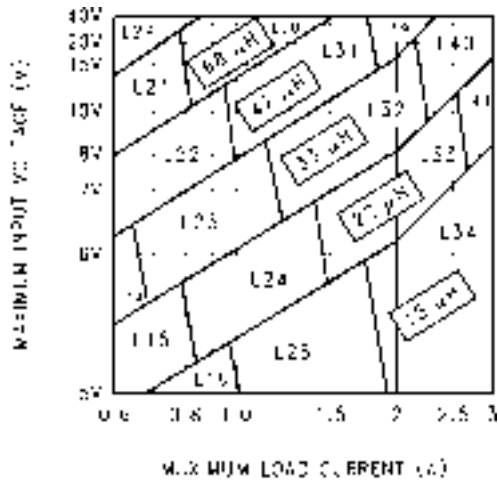
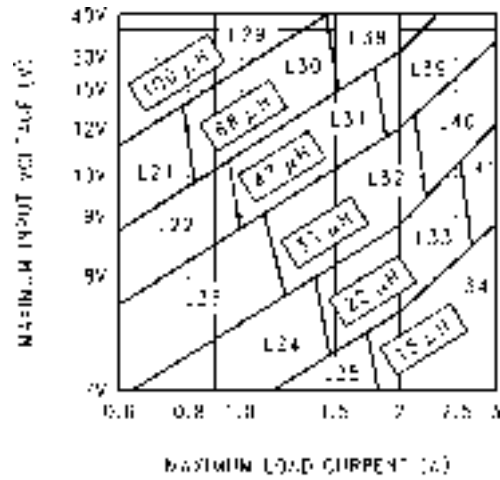
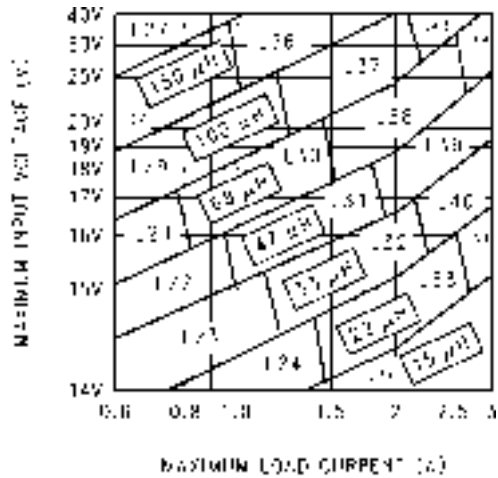
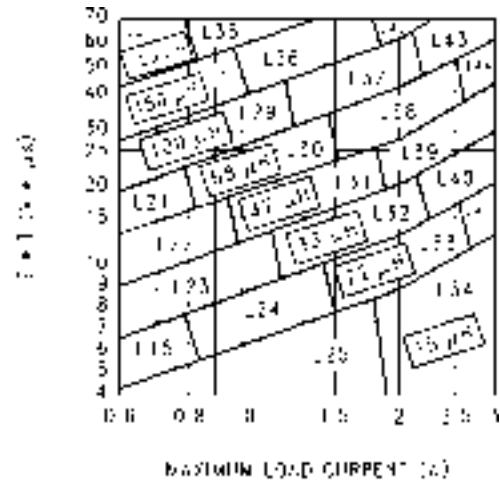

图 9-5. LM2596-3.3
图 9-6. LM2596-5.0
图 9-7. LM2596-12
图 9-8. LM2596-ADJ
To simplify the inductor selection process, an inductor selection guide (nomograph) was designed (see 图 9-5 through 图 9-8). This guide assumes that the regulator is operating in the continuous mode, and selects an inductor that will allow a peak-to-peak inductor ripple current to be a certain percentage of the maximum design load current. This peak-to-peak inductor ripple current percentage is not fixed, but is allowed to change as different design load currents are selected (see 图 9-4.)
For continuous mode operation, see the inductor selection graphs in 图 9-5 through 图 9-8.
In a switching regulator design, knowing the value of the peak-to-peak inductor ripple current ( $\Delta I_{IND}$ ) can be useful for determining a number of other circuit parameters. Parameters such as peak inductor or peak switch current, minimum load current before the circuit becomes discontinuous, output ripple voltage, and output capacitor ESR can all be calculated from the peak-to-peak  $\Delta I_{IND}$ . When the inductor nomographs in 图 9-5 through 图 9-8 are used to select an inductor value, the peak-to-peak inductor ripple current can immediately be determined. 图 9-9 shows the range of ( $\Delta I_{IND}$ ) that can be expected for different load currents. 图 9-9 also shows how the peak-to-peak inductor ripple current ( $\Delta I_{IND}$ ) changes as you go from the lower border to the upper border (for a given load current) within an inductance region. The upper border represents a higher input voltage, while the lower border represents a lower input voltage.
The selection guide in 图 9-6 shows that the vertical line for a 2.5-A load current and the horizontal line for the 12-V input voltage intersect approximately midway between the upper and lower borders of the 33- $\mu\text{H}$  inductance region. A 33- $\mu\text{H}$  inductor allows a peak-to-peak inductor current ( $\Delta I_{IND}$ ), which is a percentage of the maximum load current, to flow. In 图 9-9, follow the 2.5-A line approximately midway into the inductance region, and read the peak-to-peak inductor ripple current ( $\Delta I_{IND}$ ) on the left hand axis (approximately 620 mA p-p).
1. Select the correct inductor value selection guide from 图 9-5, 图 9-6, or 图 9-7 (output voltages of 3.3 V, 5 V, or 12 V respectively). Use the inductor selection guide for the 5-V version shown in 图 9-6.
2. From the inductor value selection guide, identify the inductance region intersected by the maximum input voltage line and the maximum load current line. Each region is identified by an inductance value and an inductor code (LXX). From the inductor value selection guide shown in 图 9-6, the inductance region intersected by the 12-V horizontal line and the 3-A vertical line is 33  $\mu$  H, and the inductor code is L40.